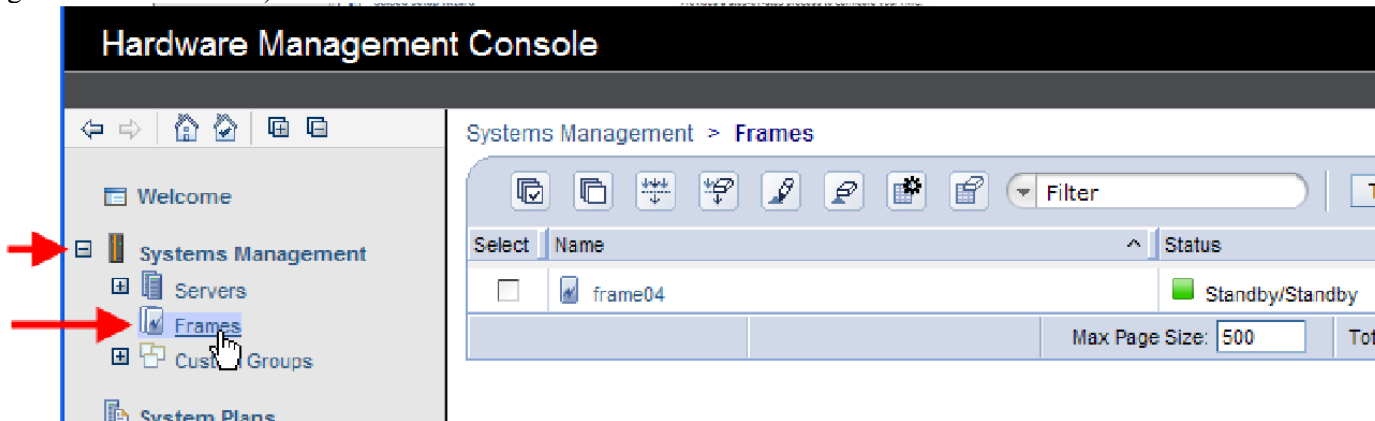

Figure 59 HMC Frames
3. In the HMC navigation pane, expand 'Systems Management' + sign and then click 'Frames' (see Figure 59 HMC Frames):